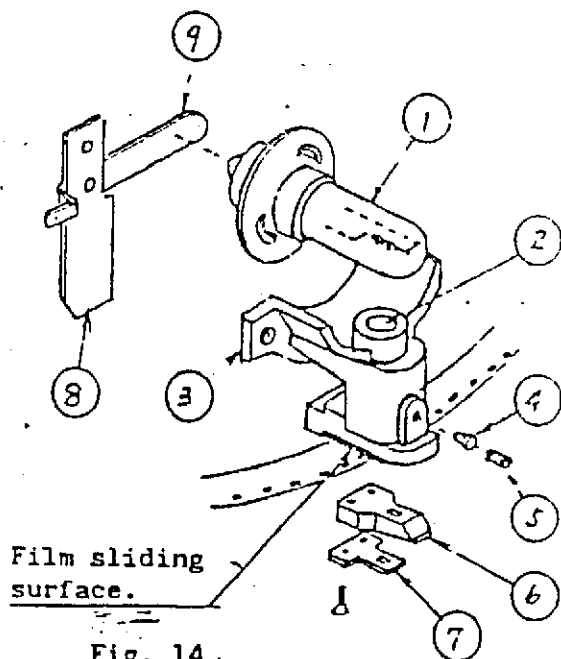

Fig. 14
- 2) Remove O-M selector (6), and if required, remove micro-switch (4), spring (11) etc.
- 4) Head carrying plate (8) should not be removed unless it is indispensably required. If it is required, remove (3) in Fig.14 before the removal of (8).